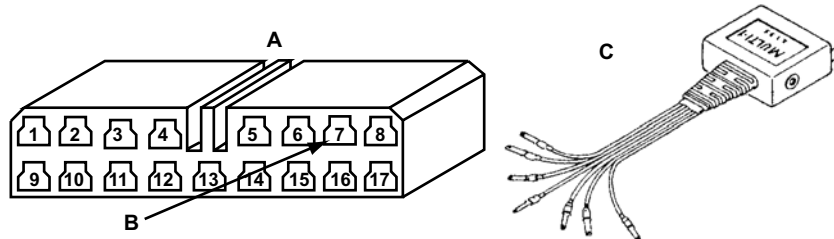

Figure 15-29 17-pin Check connector
- Connect the blue wire of the MULTI-1 adapter to pin 7 of the Check connector (Figure 15-29).